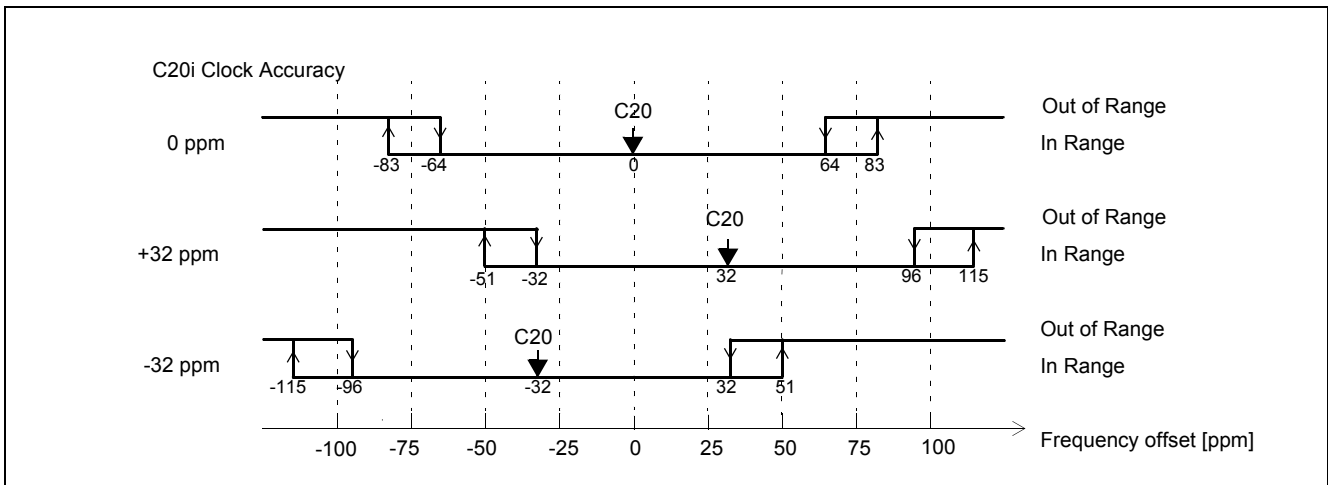
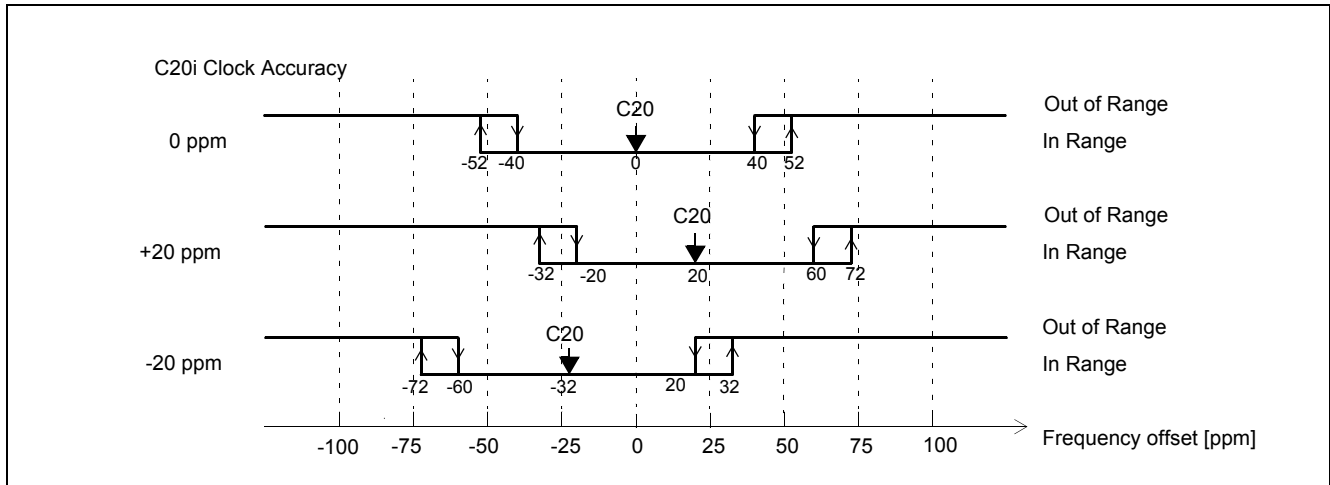

Figure 5 - Out-of-Range Thresholds for OOR\_SEL=1
Figure 6 - Out-of-Range Thresholds for OOR\_SEL=0
| Figure 5 - Out-of-Range Thresholds for OOR_SEL=1 .....         | 8  |
| Figure 6 - Out-of-Range Thresholds for OOR_SEL=0 .....         | 9  |
- **Precise Frequency Monitor (PFM):** This circuit determines whether the frequency of the reference clock is within the applicable accuracy range defined by the OOR\_SEL pin, see Figure 5, Figure 6 and Table 2. It will take the precise frequency monitor up to 10 s to qualify or disqualify the input reference.